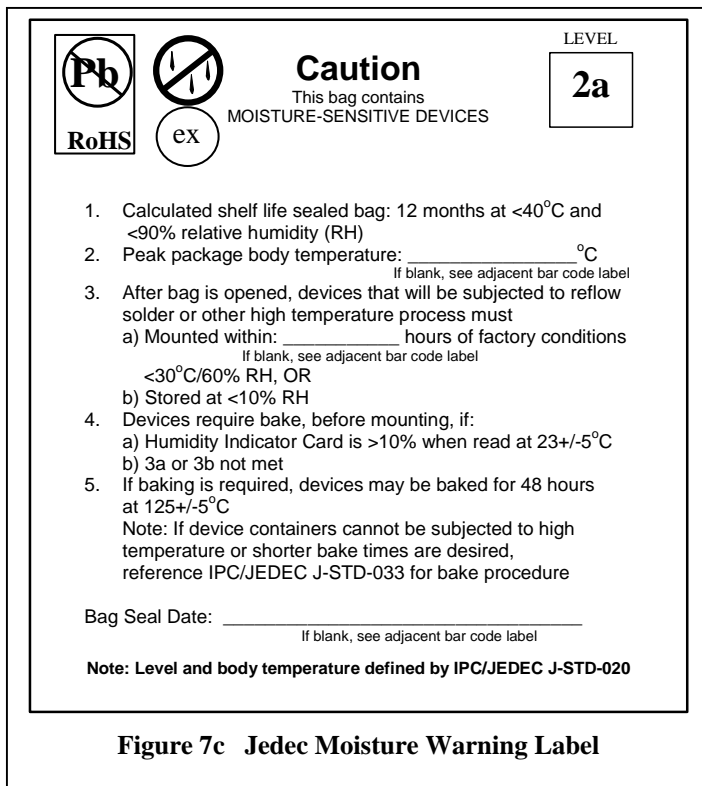

Figure 7c Jedec Moisture Warning Label
- Moisture Warning Label: Caution for moisture sensitivity, rebake and handling instructions. (Fig. 7c)